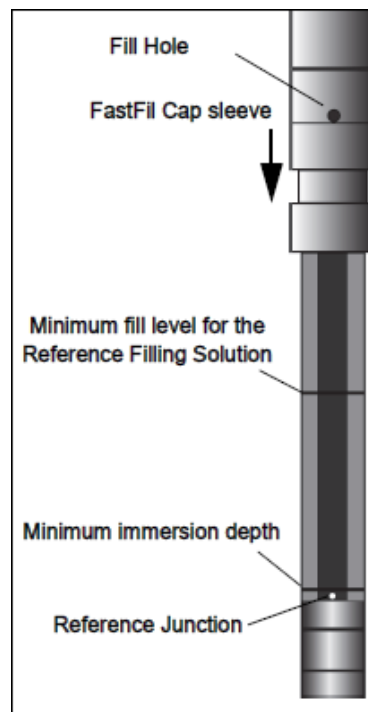

Figure 1. Reference fill chamber diagram
1. Slide the sleeve of the electrode FastFil cap down to uncover the fill hole. (See Figure 1.)